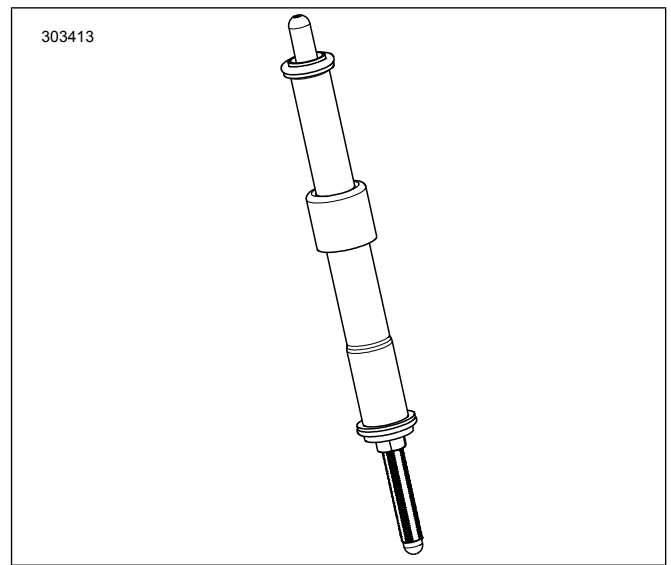

Figure 4. Pushrod Installed into Pushrod Cover
7. Figure 4 Install the intake pushrods into the pushrod covers. Replace O-rings, lower pushrod cover and spring cover keeper with new components supplied in kit. Be sure adjuster end of pushrod is down.